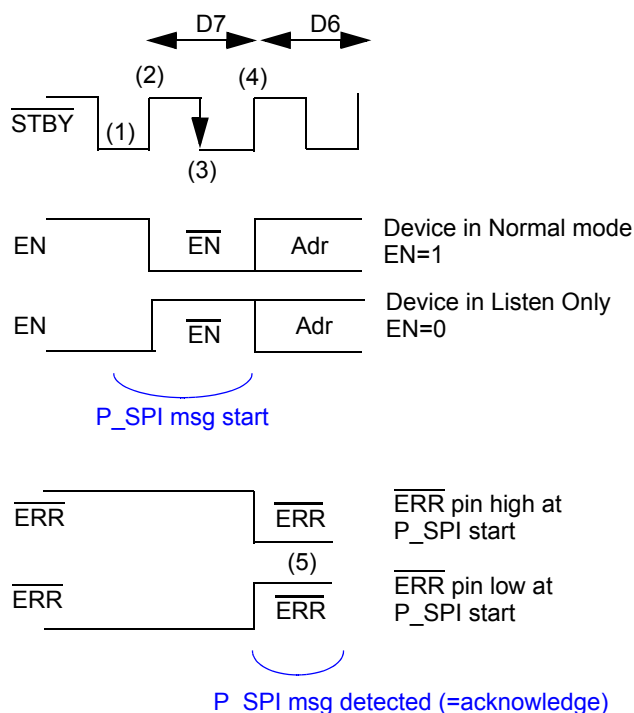

Figure 17. : P_SPI Message Start
Figure 17 illustrates the P_SPI operation. A clock signal should be generated on the $\overline{\text{STBY}}$ pin, EN input operates as Data In (MOSI) and the $\overline{\text{ERR}}$ output pin operates as Data Out (MISO).
In order to start a P_SPI operation, the level at $\overline{\text{STBY}}$ should be low (1), as shown in Figure 17. Bit D7 starts at the rising edge of $\overline{\text{STBY}}$. Bit D7 level should be opposite to the level before. D7 is then internally sampled at the $\overline{\text{STBY}}$ falling edge.